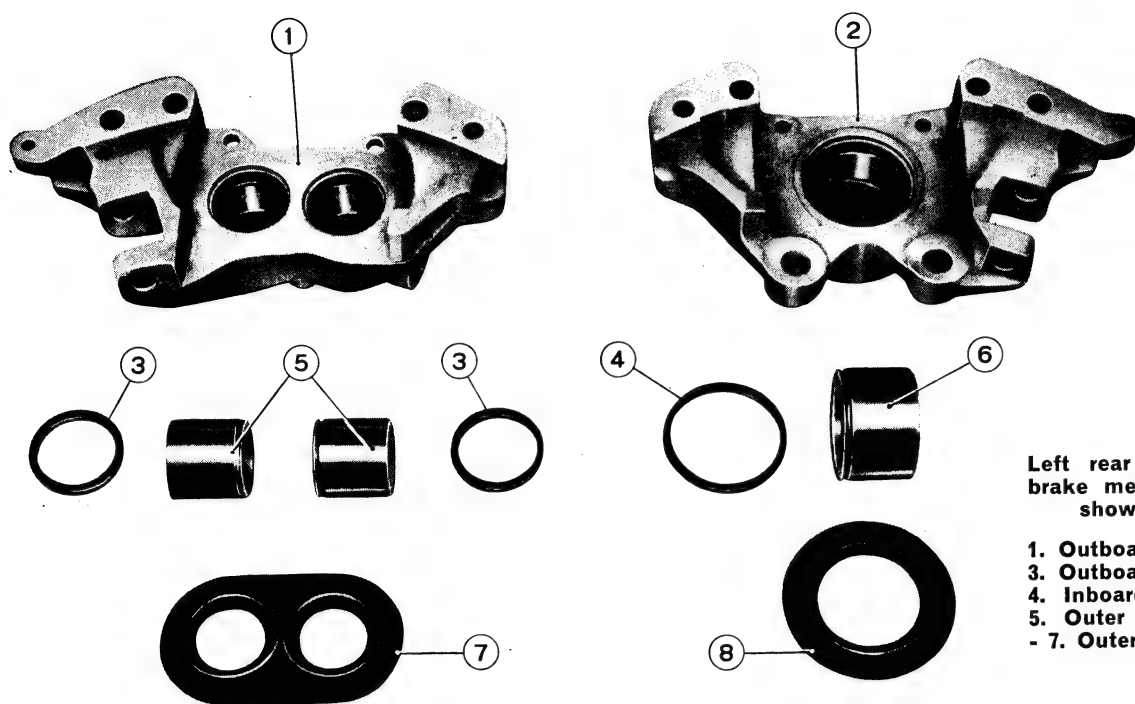

Fig. 176.
- remove the caliper assembly from the vehicle. Then, after sliding out the lining pads, remove the rubber dust covers (see figs. 176 and 177);